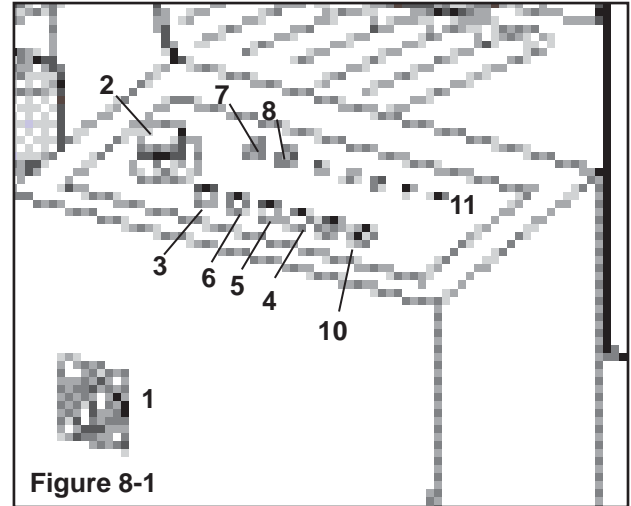

Figure 8-1
1. Main switch (**Figure 8-1**).